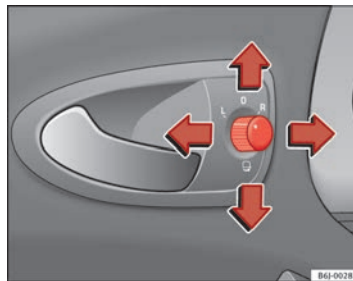

Fig. 67 Controls of exterior mirrors
1. Turn knob ⇒ Fig. 67 to position **L** (left exterior mirror).
- Turn the control ⇒ Fig. 67 to position  to fold in the exterior mirrors. You should always fold in the exterior mirrors if you are driving through an automatic car wash. This will help prevent damage.